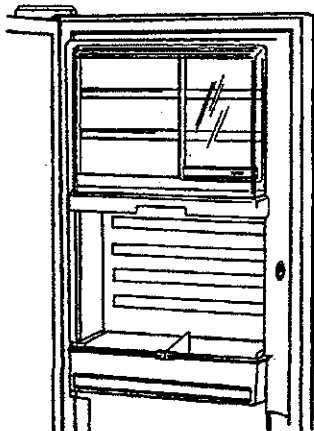

Figure 39
- d. Extra-deep beverage chiller bucket (27 cu. ft. models only) allows for storage of large and gallon-size beverage containers and may be removed for cleaning. See Figure 39.